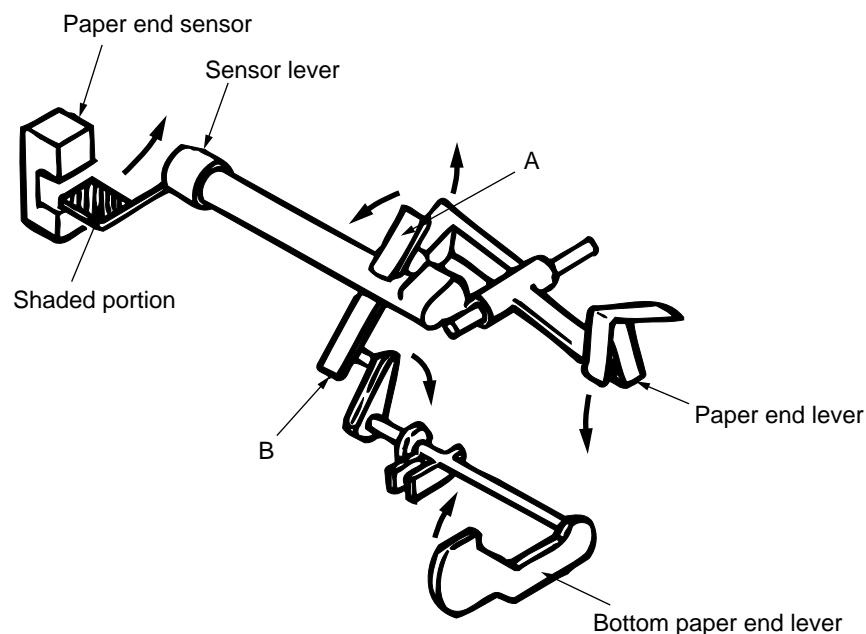

Figure 2-14
2.2.6 Paper detection mechanism (See Figure 2-14.)